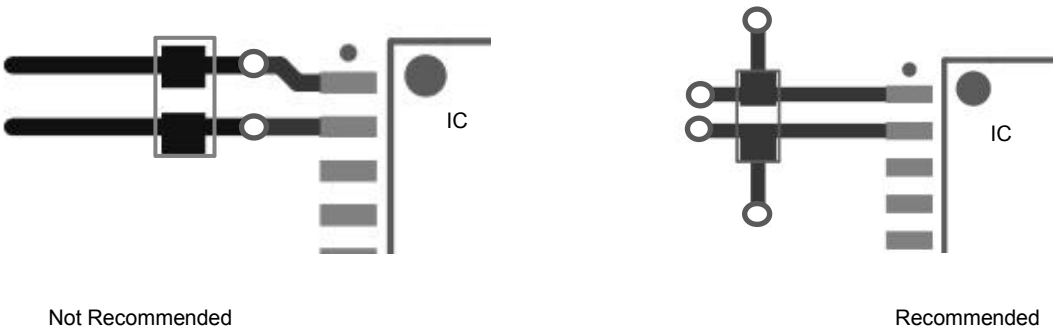

Figure. 23-2
3. When it is necessary to place vias in the power supply line and ground wire, the position of the vias should be on the outer side of the capacitor relative to the chip pins, rather than between the capacitor and the chip, as shown in Figure 23-2 to reduce the impact of parasitic inductance in the vias.